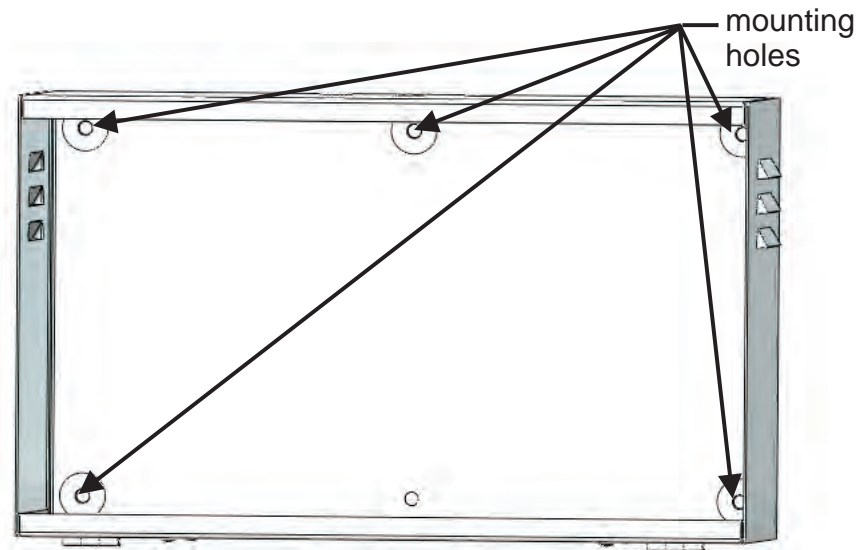

Figure J-6. Battery Cabinet Mounting Hole Locations
2. Install five (5) 3/8-16 Grade 2 bolts (not provided) at all hole locations indicated on Figure J-6. Apply washers (provided in the hardware kit, P/N 76-800000-010).